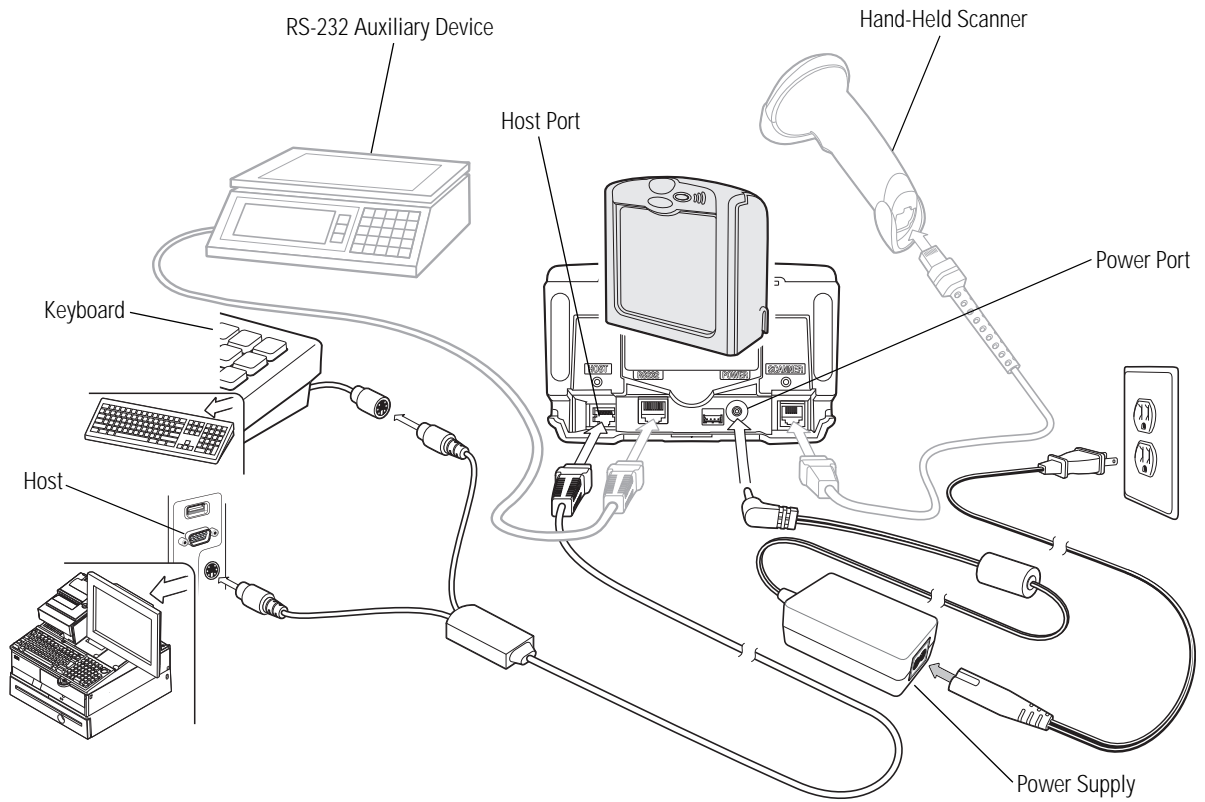

Figure 5-15 Keyboard Wedge Connection with Peripherals - Power Supplied Externally
5. Connect the peripherals, if any, to their respective ports (see Figure 5-15).